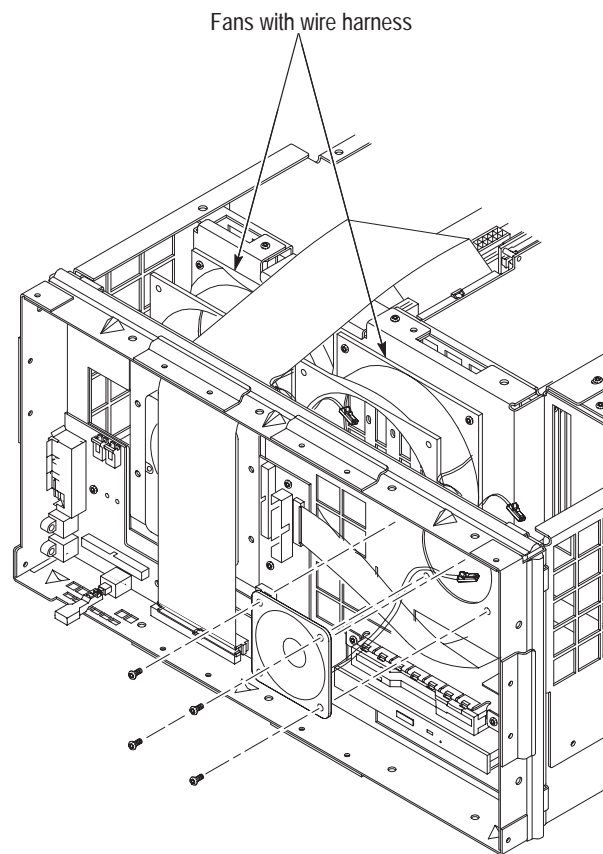

Figure 6–17: Speaker installation and fan locations
1. Route the speaker wire harness through mainframe chassis hole as shown in Figure 6–17.